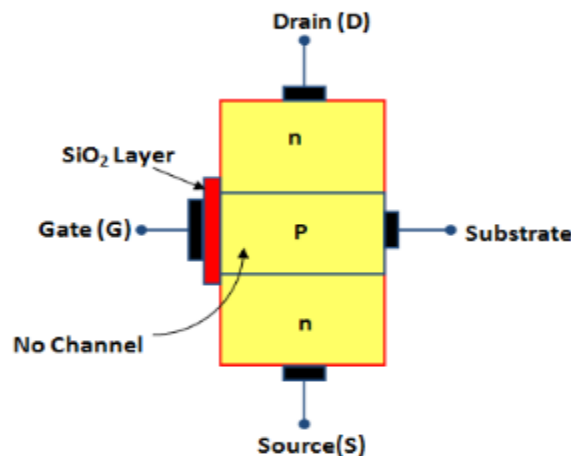

Fig. 4.21 Construction of n-channel D-MOSFET
- Fig.4.21 shows the constructional details of n-channel E-MOSFET.